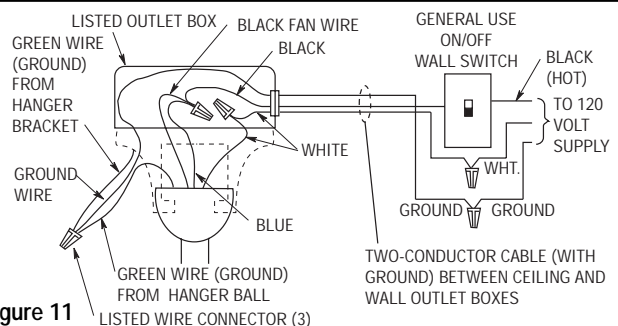

Figure 11
3. If you are going to use a single wall switch to control your ceiling fan, uplight, and optional Emerson Light Fixture (if installed) simultaneously, you will need a standard two-wire (with ground) conductor cable between the ceiling and wall outlet boxes. The fan speed and uplight can then be operated from the pull chain switches in the switch housing; the optional light fixture can be operated from the light fixture switch. Refer to Figure 11 and proceed as follows: